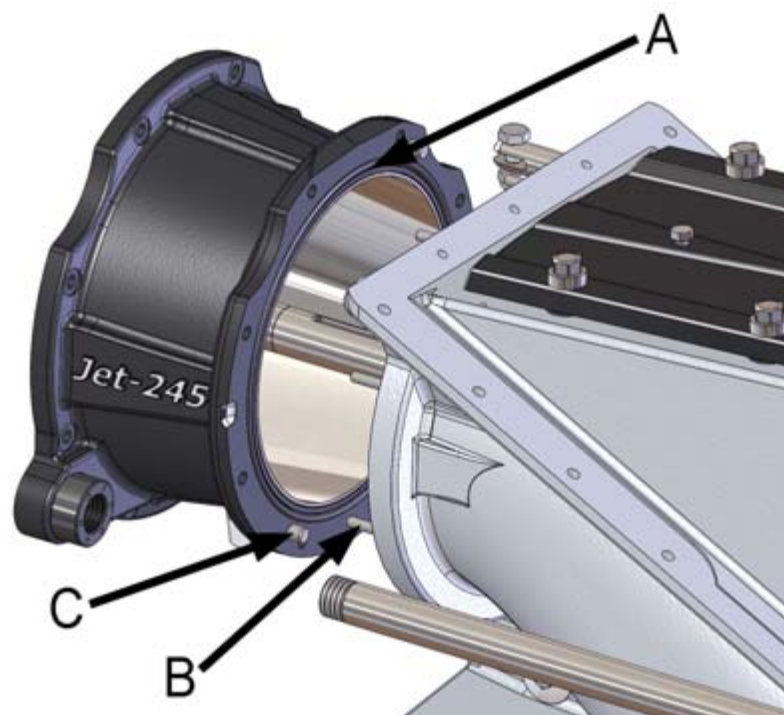

Figure 50. Installing the impeller tunnel
1. Ensure that the o-ring between the impeller tunnel and frame is in place. Apply waterproof petroleum jelly onto the connecting surface (such as Shell Gadus S2 V220AC or similar) (figure 50, point A).
2. Ensure that the set screws (8 pcs) are in their correct places in the frame. If they have come loose, they must be reinstalled with thread locking compound (such as Loctite 242) (figure 50, point B).
3. Ensure that the dowel pins of the impeller tunnel are in place (figure 50, point C).